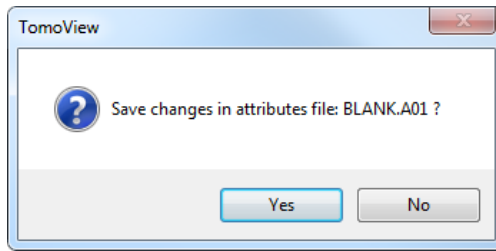

Figure 10-4 Message box for saving imported PASS data
3. In the message box that appears (see Figure 10-4 on page 448), click **Yes** to save the imported PASS data in the Blank.A01 file.